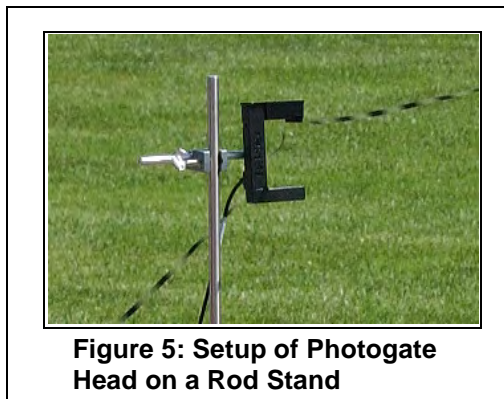

Figure 5: Setup of Photogate Head on a Rod Stand
5. Thread the other end of the Photogate Tape through the bracket on the Photogate Head (Figure 5). Do not tape or fasten the opposite end of the Photogate Tape. This end should be free to travel completely through the bracket.